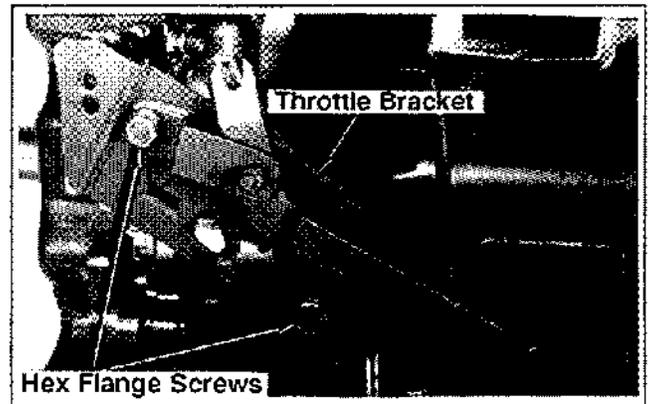

Figure 11-44. Installing Throttle Bracket.
1. Install the throttle bracket assembly with two hex flange screws. See Figures 11-44.